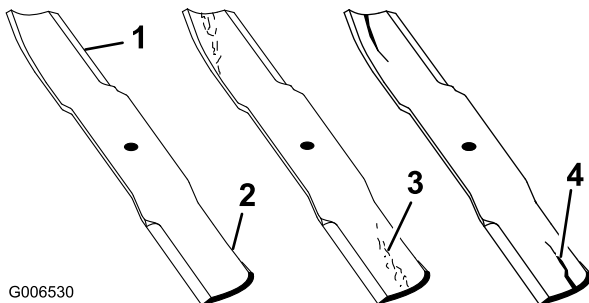

Figure 75
1. Inspect the cutting edges (Figure 75). If the edges are not sharp or have nicks, remove and sharpen the blades. Refer to Sharpening the Blades (page 50).
2. Inspect the blades, especially the curved area. If you notice any cracks, wear, or a slot forming in this area immediately install a new blades (Figure 75).